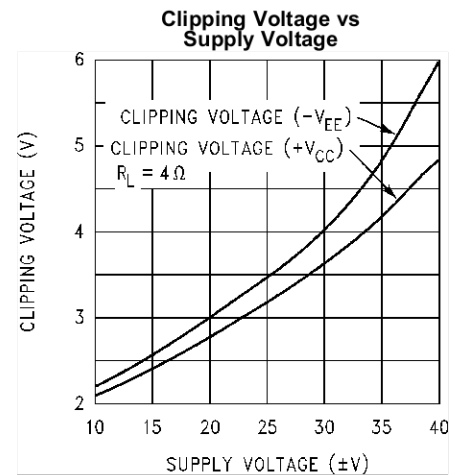

Figure 14.
- (1) All voltages are measured with respect to the GND pin (pin 7), unless otherwise specified.
- (2) Absolute Maximum Ratings indicate limits beyond which damage to the device may occur. Operating Ratings indicate conditions for which the device is functional. Electrical Characteristics state DC and AC electrical specifications under particular test conditions and specific performance limits. This assumes that the device is within the Operating Ratings. The typical value is a good indication of device performance.
- (3) Typical values are measured at $25^\circ C$ and represent the parametric norm.
- (4) Limits are specified to AOQL (Average Outgoing Quality Level).
- (5) V^- must have at least $-9V$ at its pin with reference to ground in order for the under-voltage protection circuitry to be disabled.
- (6) AC Electrical Test; refer to Test Circuit #2 -AC Electrical Test Circuit.
- (7) The feedback compensation network limits the bandwidth of the closed-loop response and so the slew rate will be reduced due to the high frequency roll-off. Without feedback compensation, the slew rate is typically larger.
- (8) DC Electrical Test; refer to Test Circuit #1- DC Electrical Test Circuit.
- (9) The output dropout voltage is the supply voltage minus the clipping voltage. Refer to Figure 14 in Typical Performance Characteristics.